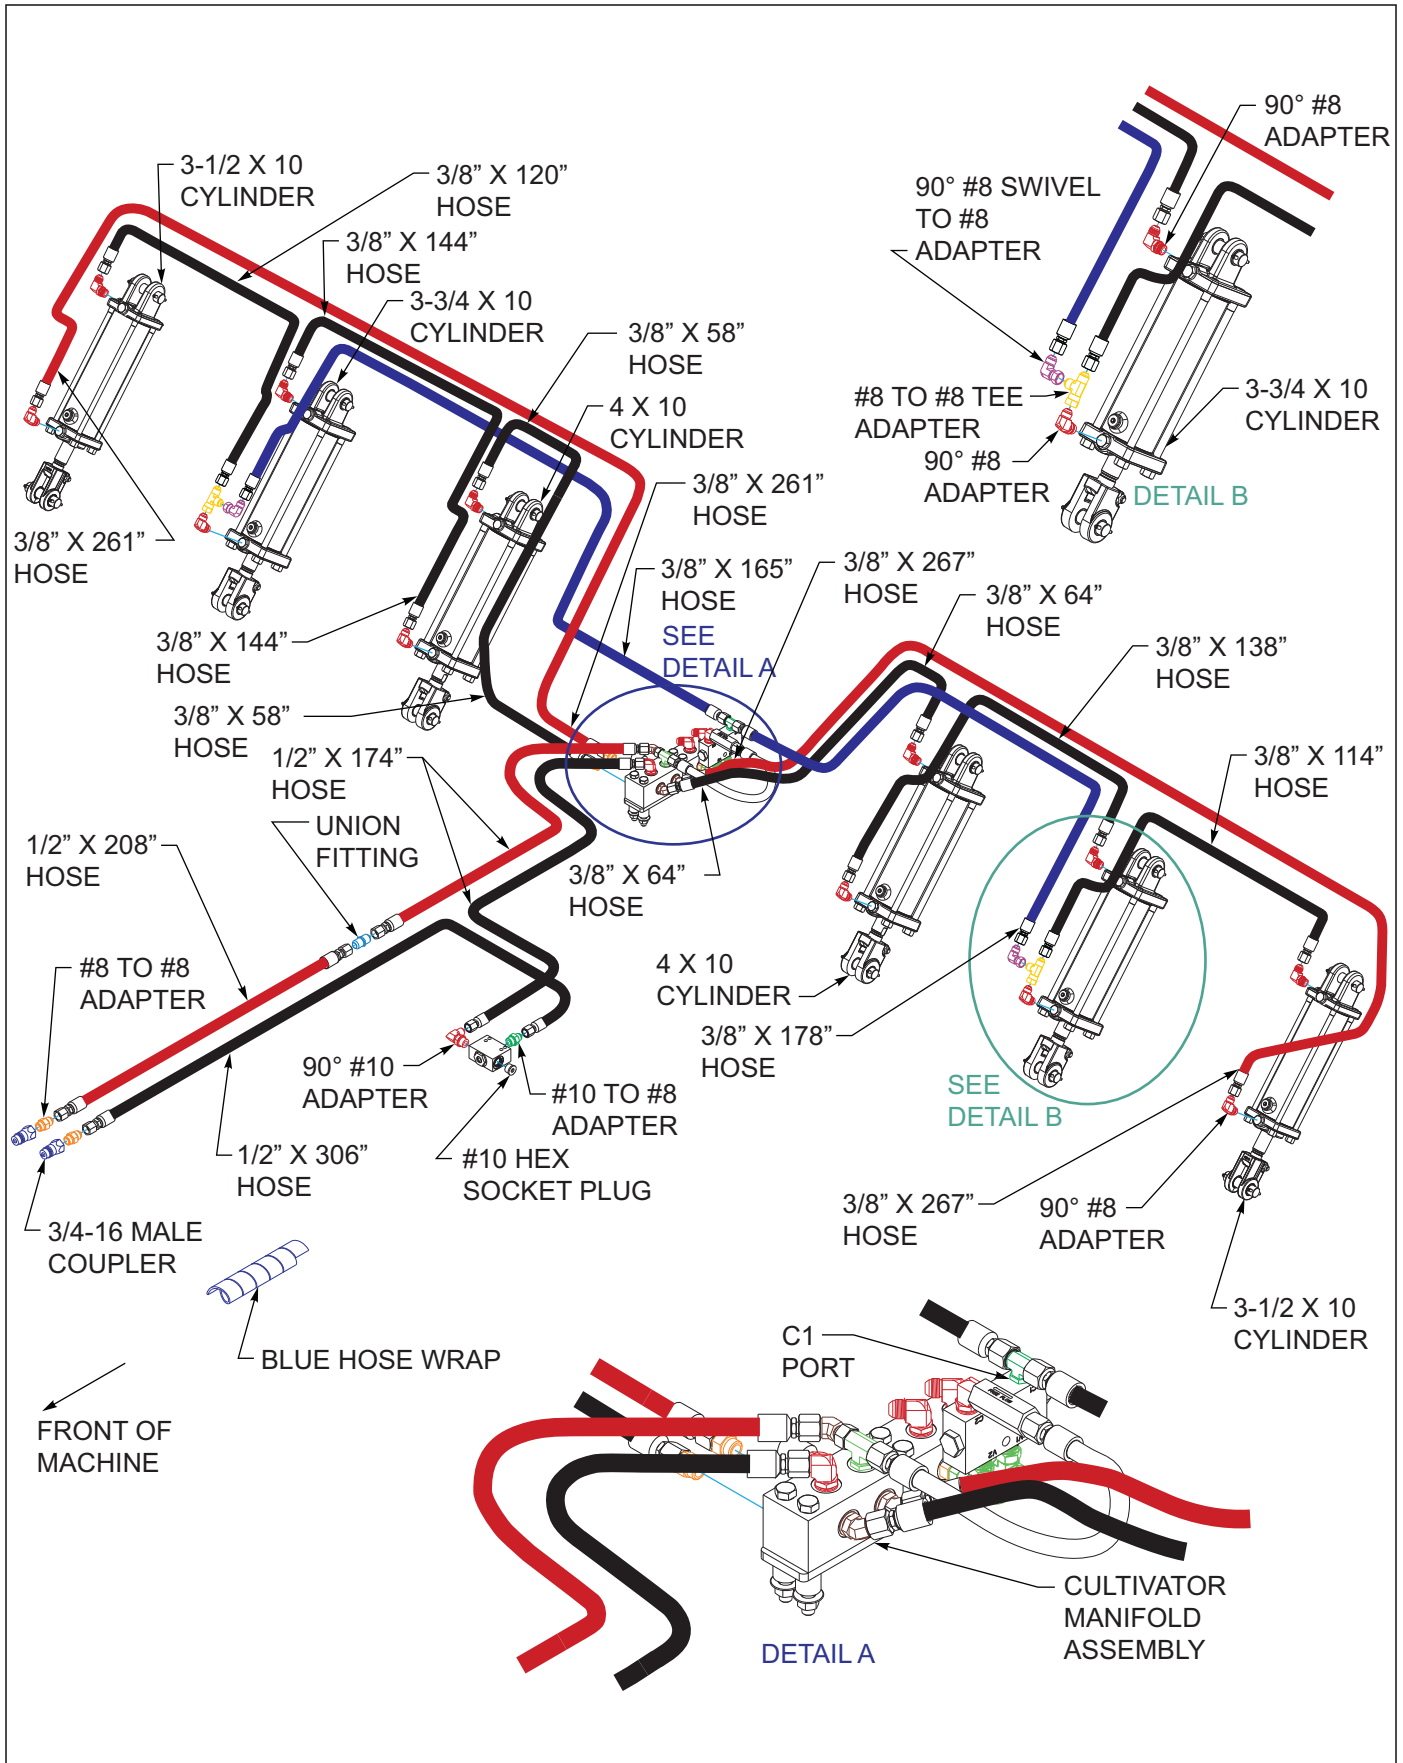
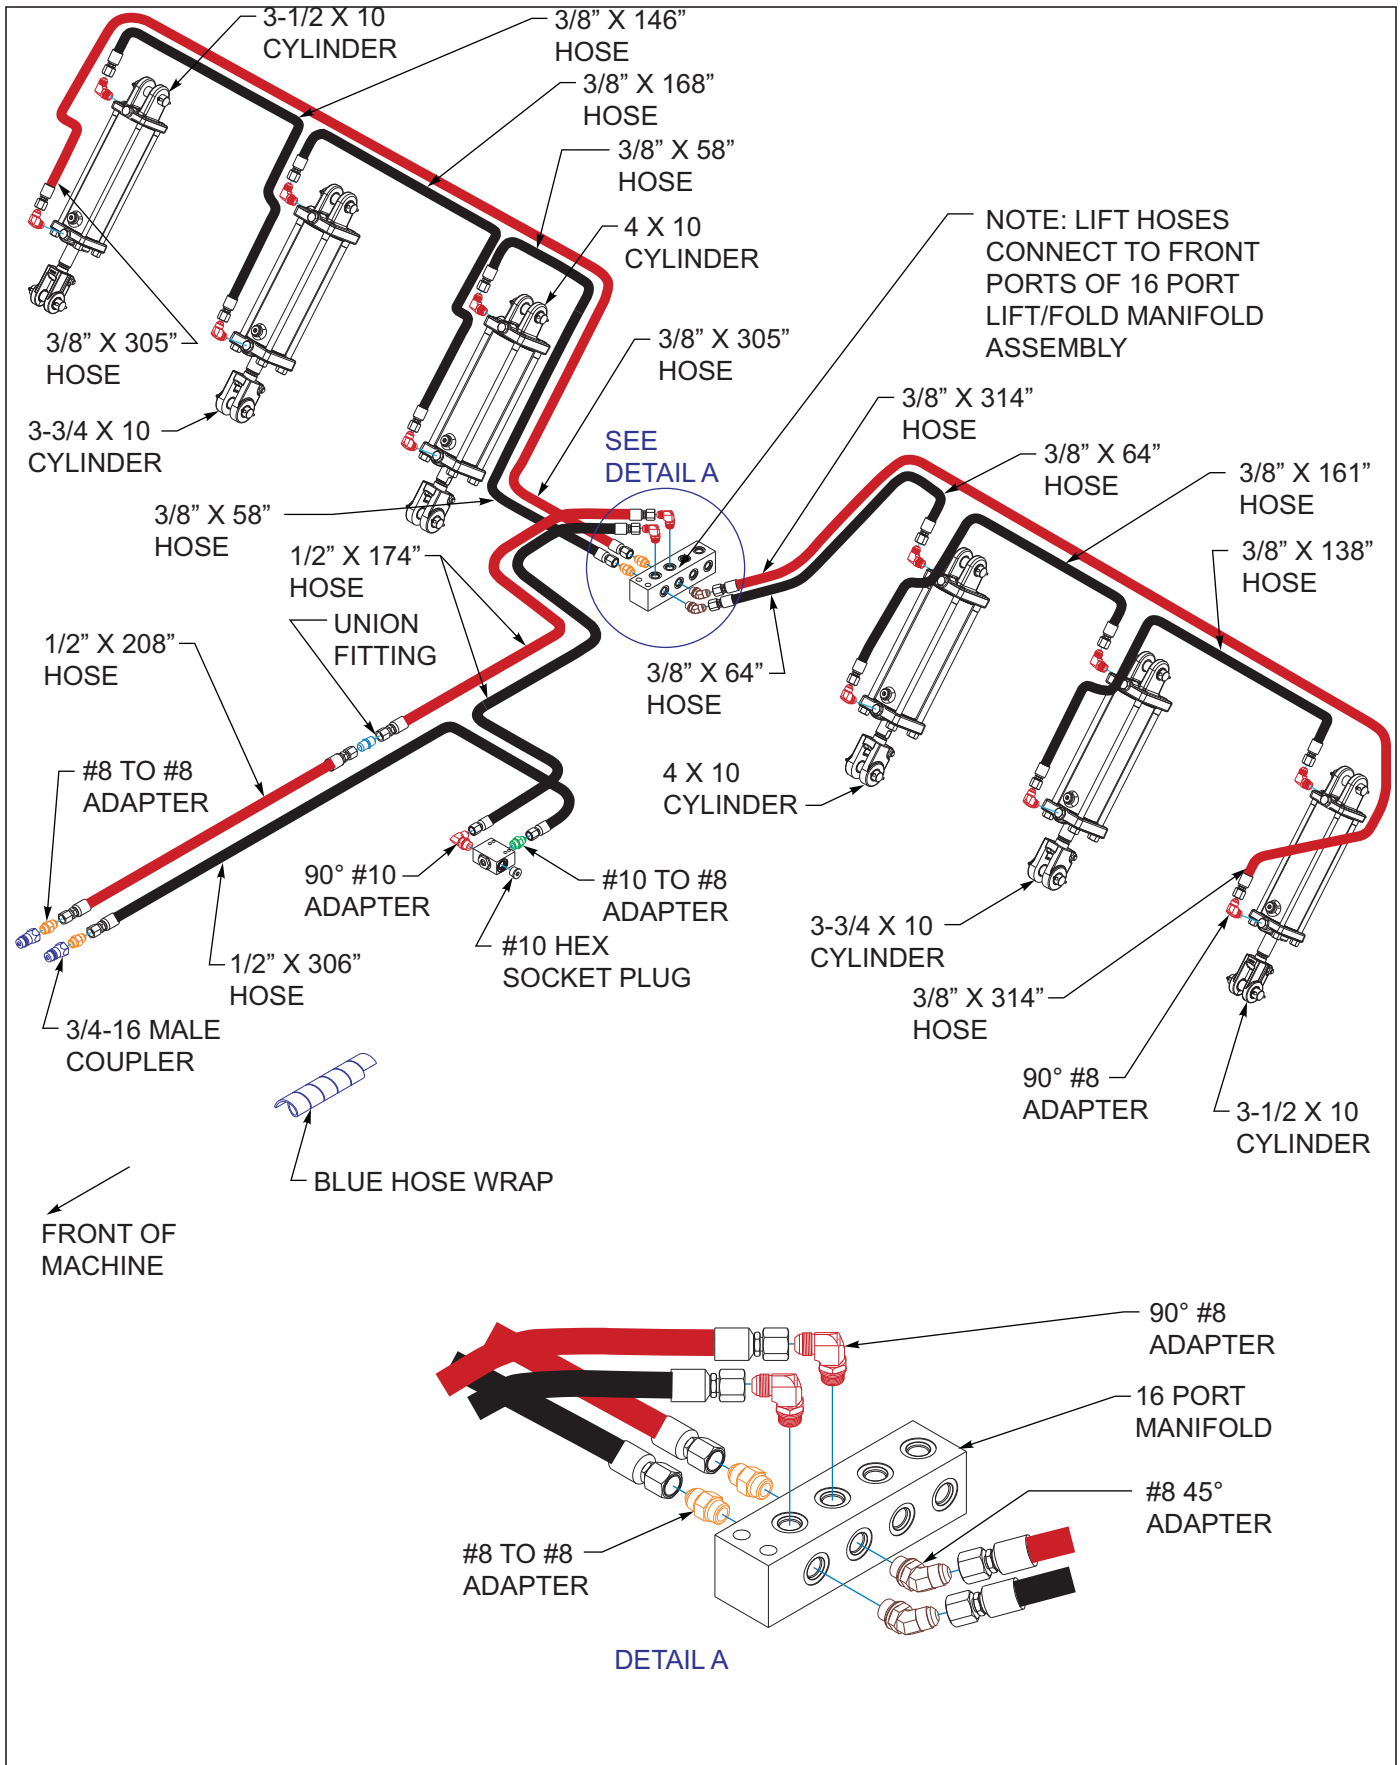

Figure 3-12: Hydraulic Lift Installation 9450FH-38' - 42'
Figure 3-18: Hydraulic Lift Installation 9450FH-46' - 50'
See **Figures 3-12 through 3-23** for hydraulic cylinder fittings (factory installed and those installed during setup.)
Refer to **Figures 3-12 and 3-17** for lift and fold hydraulic diagrams for 9650-38' and 9650-42' models.
Refer to **Figures 3-18 and 3-23** for lift and fold hydraulic diagrams for 9650-46' and 9650-50' models.
4. Install 90 degree regular adapter fittings in both ends of all lift cylinders (4 x 10, 3-3/4 x 10, and 3-1/2 x 10) **See Figures 3-12 and 3-18**. Install base fitting in side port, with both fittings pointing upward.
9. Install lift system hoses per Figure 3-12 (9650-38 and 9650-42) or Figure 3-18 (9650-46 and 9650-50.) Wrap lift system hoses with blue hose wrap.